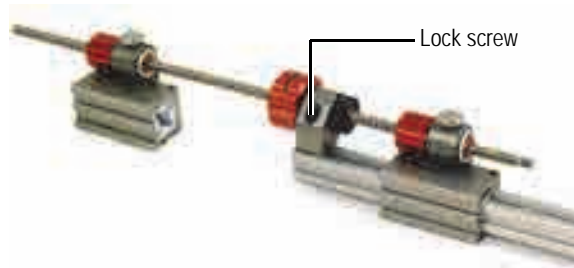

Figure 2-14 Installing or removing the y-axis slide assembly
1. Loosen the lock screw with a hexagonal key (see Figure 2-14 on page 35).
2. Tighten the lock screw with a hexagonal key (see Figure 2-14 on page 35).